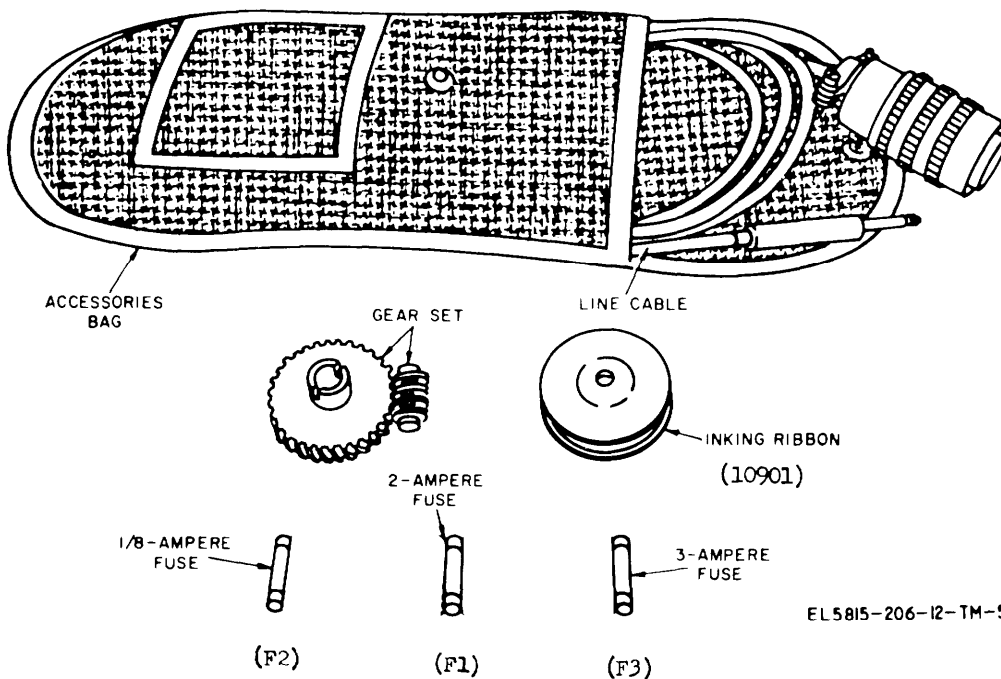
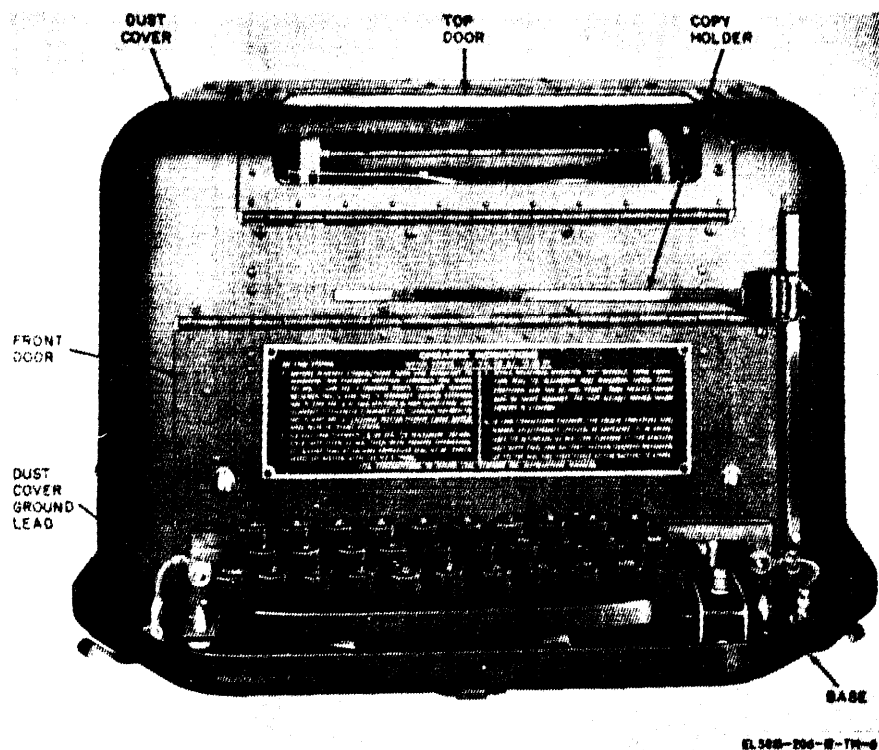
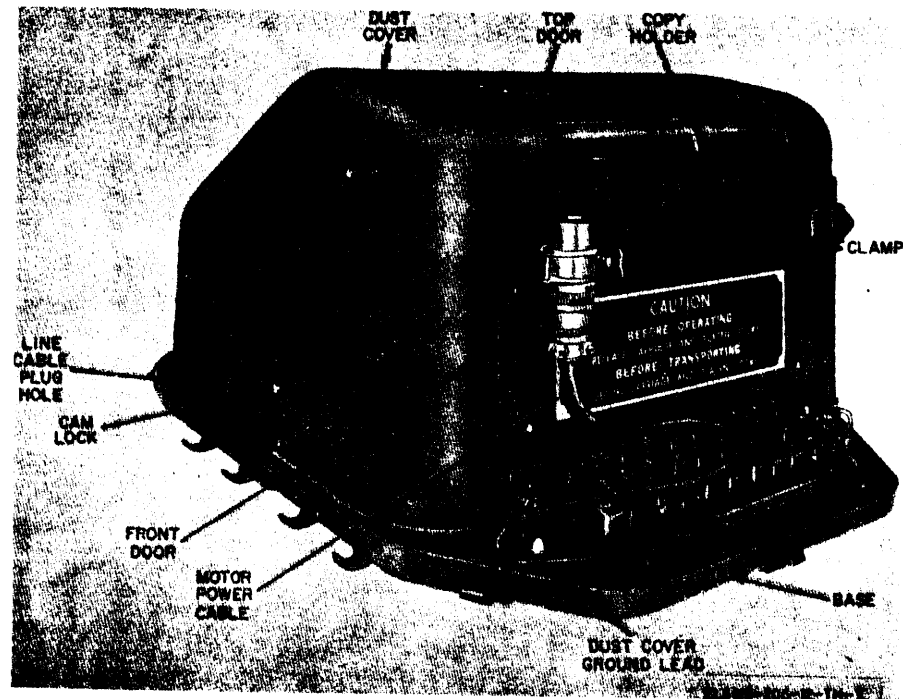

Figure 1-6. Accessories bag and contents (TT-537/G)
Figure 1-7. Teletypewriter TT-4(*)/TG or TT-698(*)/TG. dust cover installed. front cover.
Figure 1-8. Teletypewriter TT-537/G, dust cover installed, left front view.
a. The teletypewriter includes a send-receive teletypewriter (fig. 1-7), a wooden transportation and storage case (fig. 1-1), a dust cover (fig. 1-7), an immersionproof cover (fig. 1-11), a set of running spares (fig. 1-4), a tuning fork, mounted within the dust cover, and an accessory worm and worm gear (fig. 1-6). The teletypewriter base includes hooks for lashing the teletypewriter to a packboard for manual transport (fig. 1-11 and 1-
12). The immersionproof cover is held to the teletypewriter base with spring-loaded clamps. The dust cover includes a window, copyholder, operating instruction panel, and hinged doors (fig. 1-7).
(6) The TT-537/G is equipped with automatic carriage return and line feed which returns the carriage to the left margin of the unit, and provides a single and/or double line feed to prevent overprinting when the end of the line is reached.
(7) On the TT-537/G, the power cable is permanently wired to the teletypewriter. When the unit is packed to be transported, the power cable is wound around the dust cover and the connector is clamped to the clamping device on the left front of the dust cover before the immersionproof cover is installed (fig. 1-8). The line cable is shipped loose in a bag (fig. 1-6), and it is plug-connected, through a hole in the dust cover, to the teletypewriter line jack (fig. 1-8).
a. Packaging Data. The factory packaging arrangement of the teletypewriter set is suitable for either export or domestic shipment. The wooden box is 20½ inches high, 26¼ inches wide, and 26¼ inches deep. The volume of the wooden box is 9.5 cubic feet and the total weight of the packaged set is approximately 200 pounds. When only Teletypewriter TT-4(*)/TG, TT-335/TG, or TT-698(*)/TG is furnished, packaging is the same, except that Bag CW-356/U and the three cable assemblies (para 5a) are not included. When the TT-537/G is furnished, the wooden box is replaced with a triple-wall fiberboard carton and the accessories bag (fig. 1-6) with the line cable assembly is included.
- (1) Cut the steel straps with a pair of tin snips or other appropriate tool.
- (2) Remove the nails from the wooden box lid
b. Loosen the round knurled nuts and disconnect the dust cover ground leads from the front comers of the dust cover (fig. 1-7).
d. For the TT-4A/TG or TT-698/TG, grasp the rear corners of the dust cover, raise the rear of the dust cover to free it from the rear mounting posts, and lift it straight upward. Release the motor power cable connector from the dust cover of the TT-537/G (fig. 1-8). For all models, except the TT-4A/TG or TT-698/TG, turn the cam-lock assembly on each side of the dust cover and lift the cover straight upward.
(1) Signal-bell clapper at rear right-hand corner of teletypewriter.
(2) LTRS key lever and space bar on keyboard.
(3) Type basket above control panel.
(4) Motor power cord beneath paper-feed
a. *Motor Power Connection*. Connect the TT-4(*)TG motor power cord (fig. 1-10) to a source of 105- to 125-volt dc or ac (50- to 60-Hz single-phase) power. Connect the motor power cord of the TT-335T/TG to a source of 108- to 132-volt, 396- to 404 cps. single phase, ac power. Connect the motor power cable (fig. 1-7) of the TT-537/G to the mating connector on the computer source of 105- to 125-volt, 396- to 404-cps. single-phase, (para 2-3c). Connect the power cord of the TT-698(*)/TG (fig. 1-10) to a source of 105- to 125-volt ac (50- to 60Hz, single-phase) power.
b. *Protective Ground Connection*. Connect the braided metal pigtail on the plug of the motor power cord to a suitable ground connection point ((1) and (2) below).
(1) When *installing* the teletypewriter in an aircraft or on a vessel, connect the pigtail to a metal structural member of the aircraft or vessel.
(2) If the teletypewriter is to be installed at a ground communication site, connect the pigtail to a water pipe or other similar low-resistance ground (5 or 6 feet ground rod). Use a length of field wire or any available wire of equal or heavier gage. If a suitable ground connection point is not available, use one or more ground rods to obtain a low-resistance ground connection point. The ground rod (or rods) may be located as far as 1,000 yards from the teletypewriter. Select a low, damp site, preferably a spot where the soil is clay or loamy.